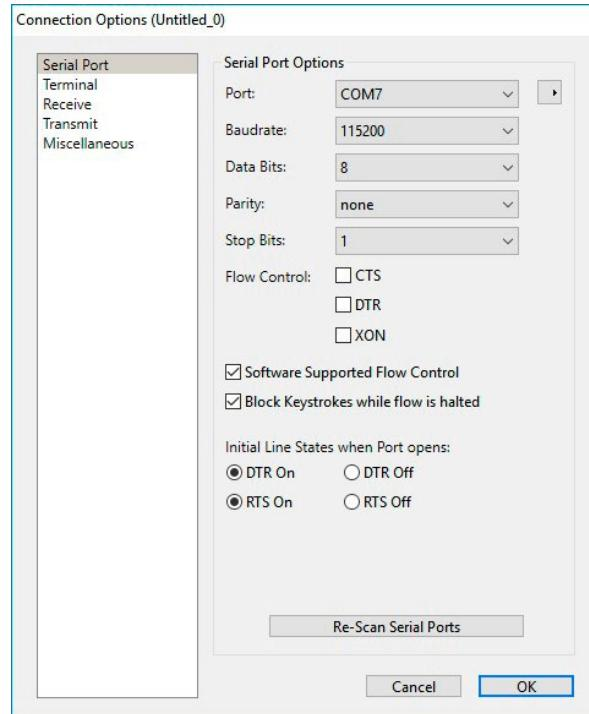

Figure 6. Coolterm Options Setting
- b. In Coolterm, click Options and set the Port pull-down to the COM port found earlier (e.g. COM7). Furthermore, set the baud rate to 115200 as shown below. Click OK to close. See Figure 6.